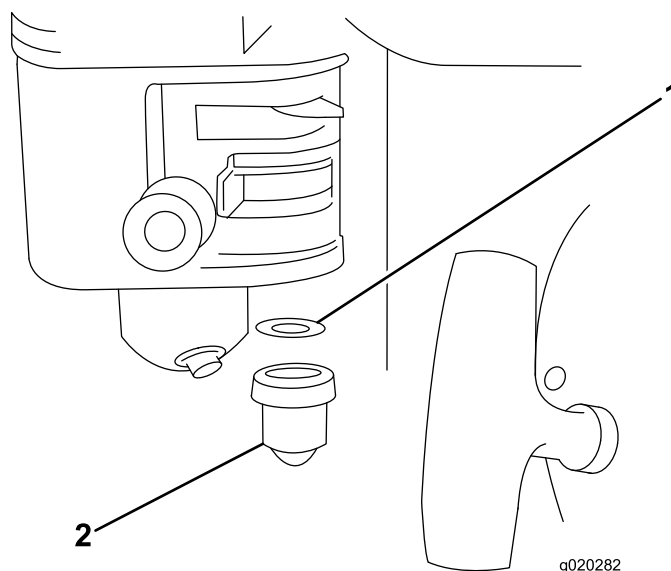

Figure 16
4. Remove the sediment cup and O-ring (Figure 16).